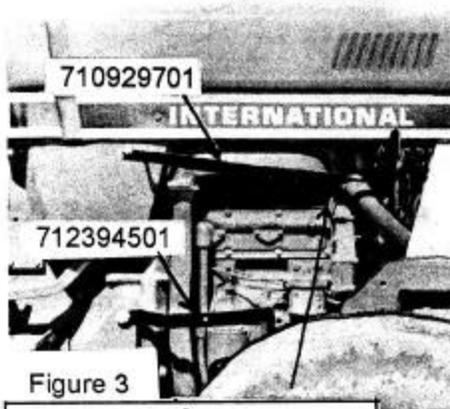

Figure 3
2. If tractor has up exhaust attach # 710929701 Exhaust Guard to tractor using existing bolt in tractor on the rear of the Exhaust Guard. Use # 712584901 clamp and 5/16x1 1/2" hex bolt at front of Exhaust Guard to hold guard on cowling. See Figure 3